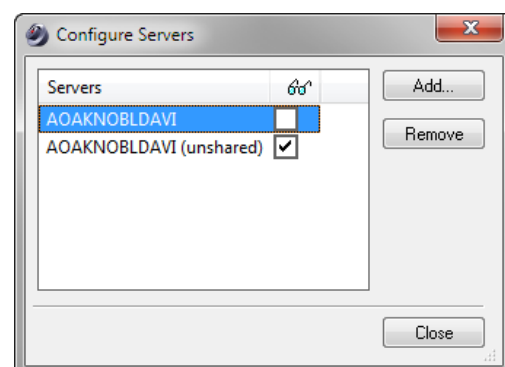

Figure 6. Deactivate shared Server.
- Uncheck the **Shared** server box if it is checked. See Figure 6.